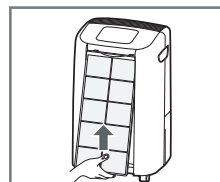

Fig.3
2. Pull the bottom of the filter out and lift the filter out (Fig.3).